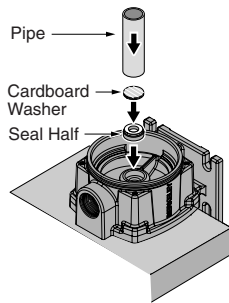

Figure 21
1. Turn the bracket pump side up on the bench. You will need to block it up to do this (See Figure 21).
1. Bolt the bracket down to the foundation (see Figure 21).